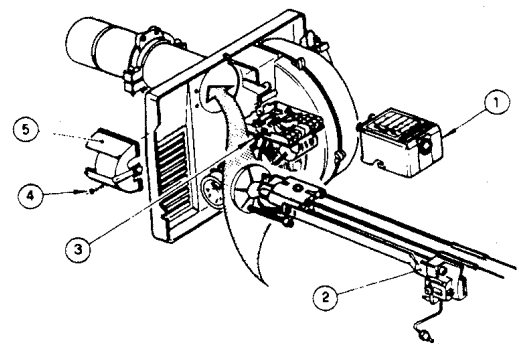

Figure 7B: Installation/Removal of Drawer Assembly
- a. Installation/Removal of Drawer assembly, refer to Figure 7B.